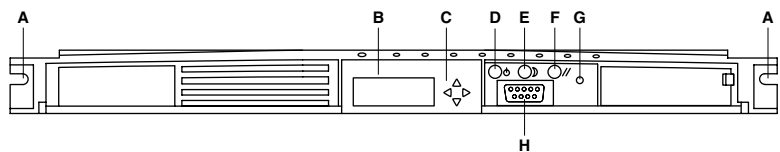

Figure 2
3. Press the power button (See Figure 2).